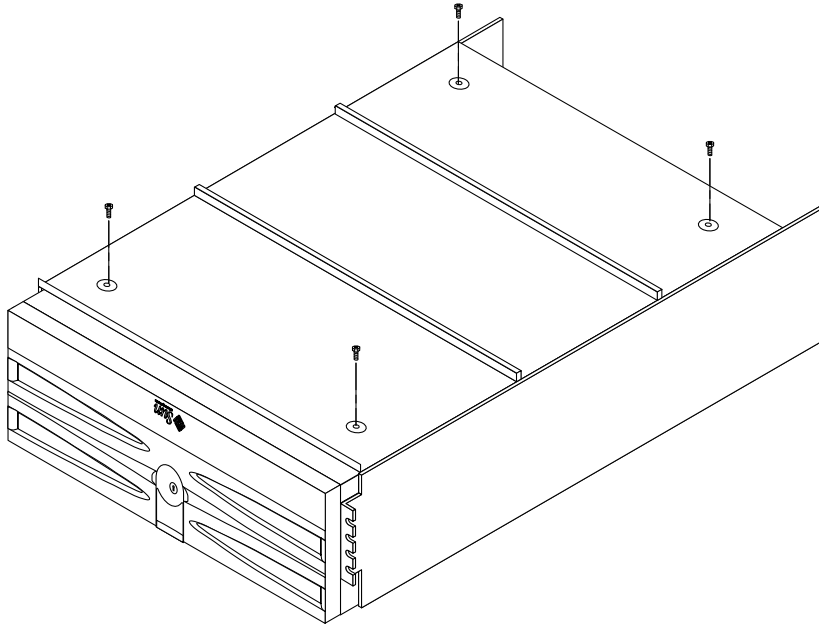

FIGURE 3 Installing the Mounting Tray on the Chassis
3. Place the tray on the array (FIGURE 3).